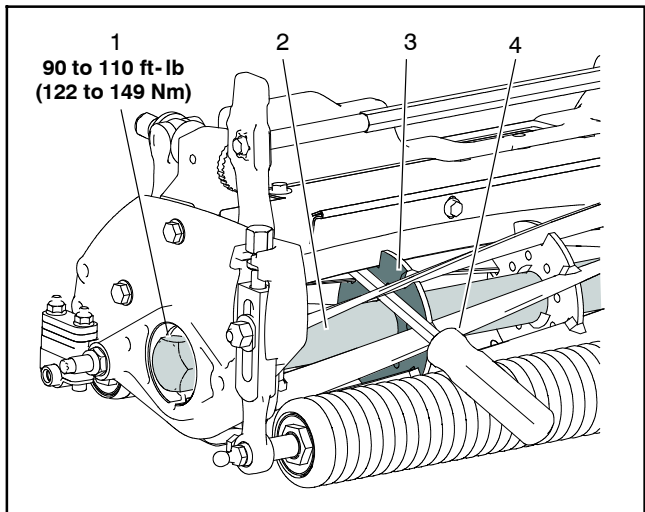

Figure 31
A. Insert a long-handled pry bar (3/8 x 12 inch with a screwdriver handle recommended) through the front of the cutting unit. The pry bar should pass between the top of the reel shaft and the backs of the reel blades so that the reel will not move (Fig. 31).